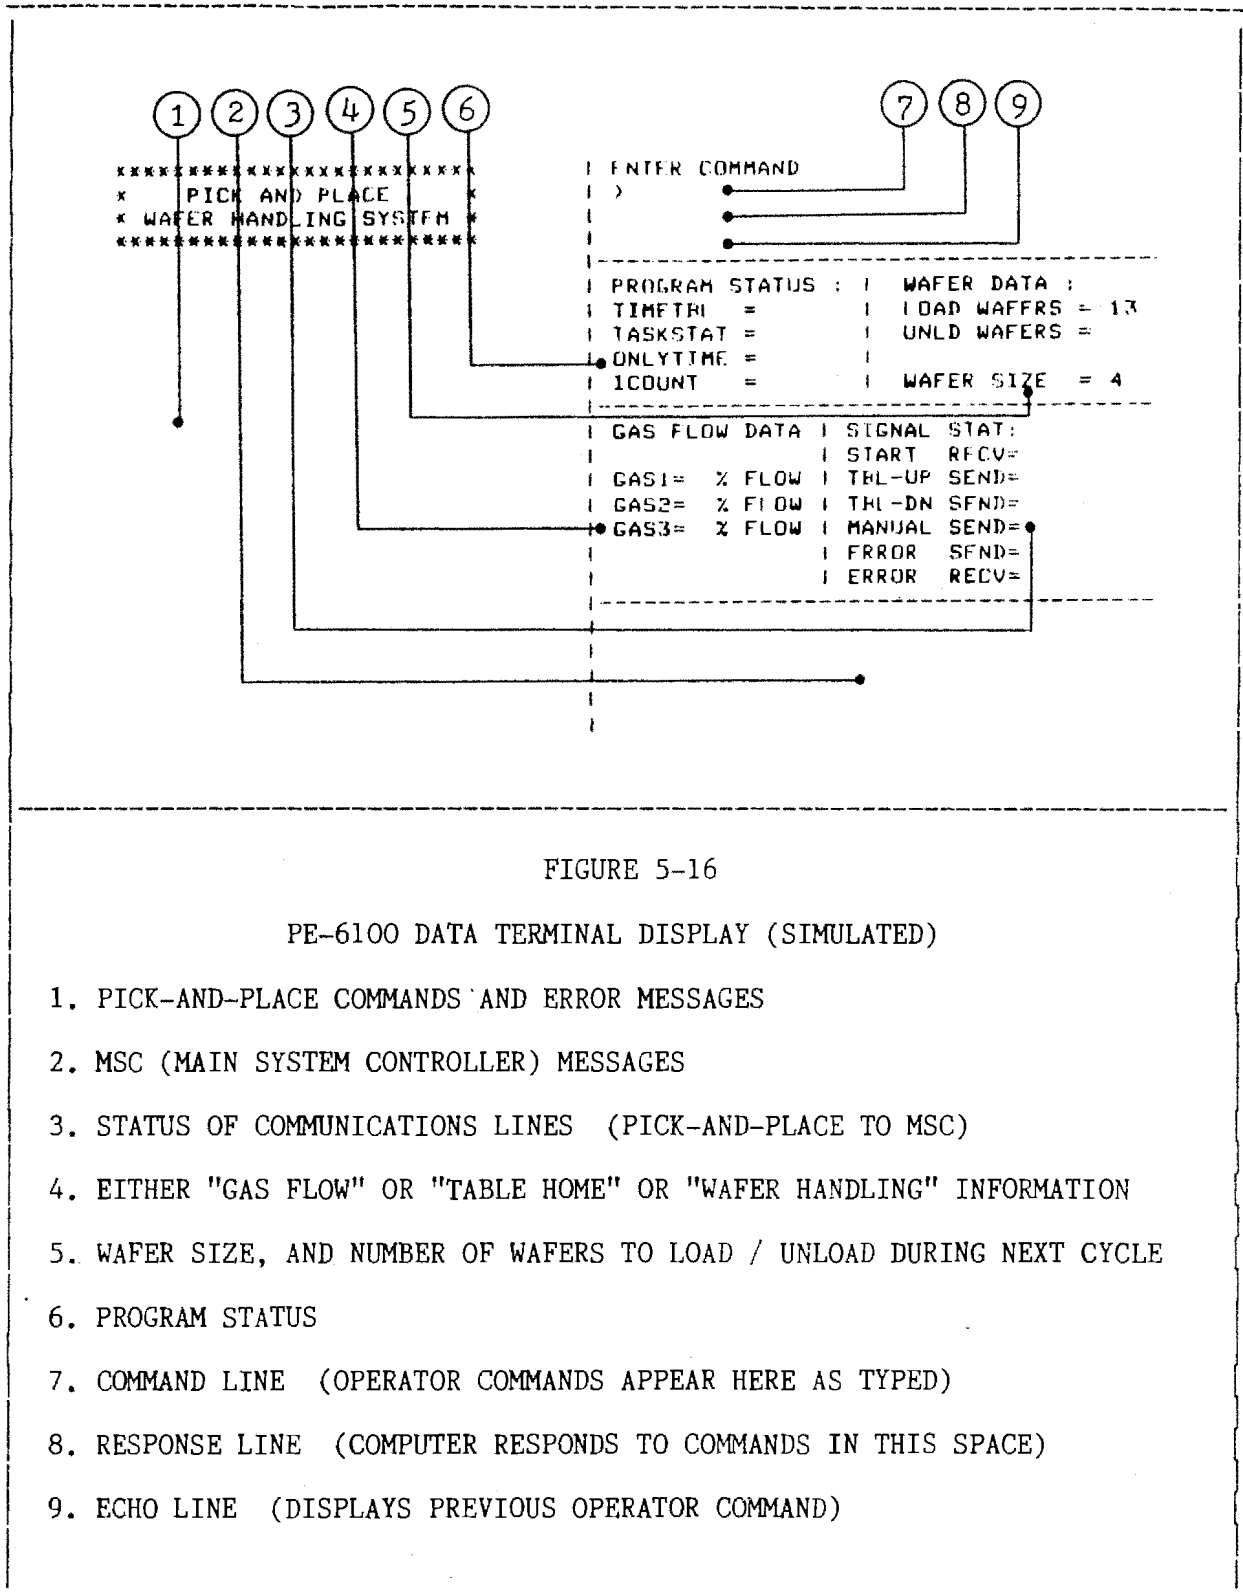

FIGURE 5-16
Figure 5-16 shows a typical CRT display during a wafer handling routine. Notice that the screen is divided into seven (7) distinct areas, each of which contains a different type of information. Note also that one of the areas is used to display information related to three (3) different operations: wafer handling, pallet HOME position indexing, and process gas flow levels — according to which operation is in progress.